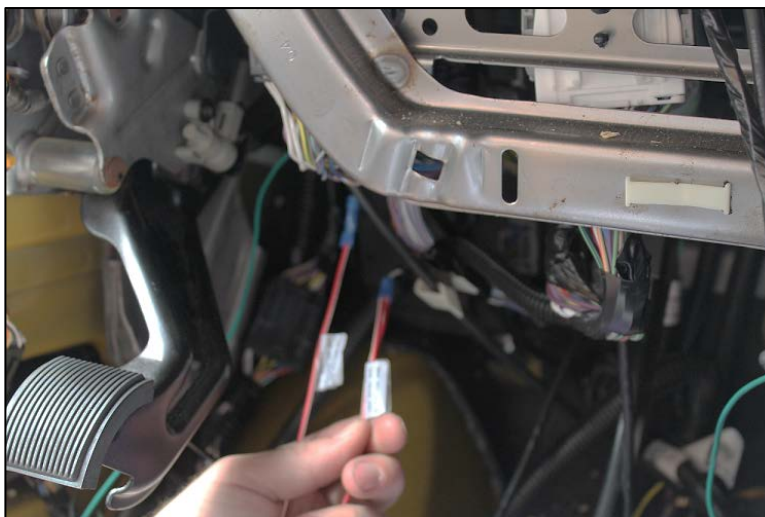

Figure 4: Wires from TBB 221554 Connected to the Park Brake
7. Take the wire labeled Body_H_PRK_BRK_SIG_TO_CHAS from TBB 221554 and connect it to the cut signal to chassis wire from step 5. See **Figure 4**.